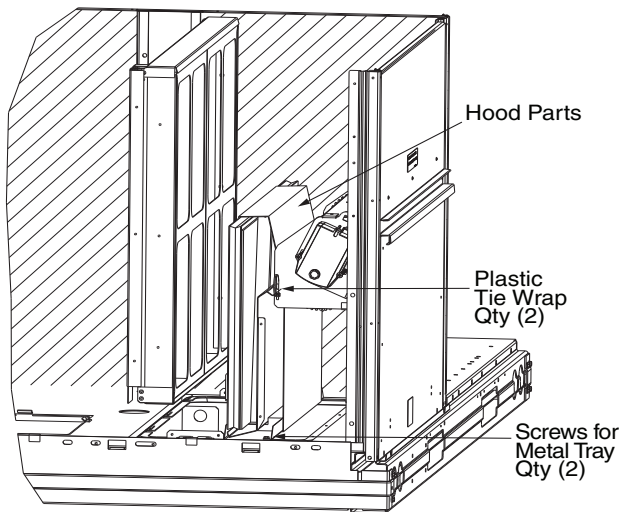

Fig. 10 — Economizer and Two-Position Damper Hood Parts Location
2. Locate the (2) screws holding the metal tray to the basepan and remove. Locate and cut the (2) plastic tie-wraps securing the assembly to the damper. (See Fig. 10.) Be careful to not damage any wiring or cut tie-wraps securing any wiring.